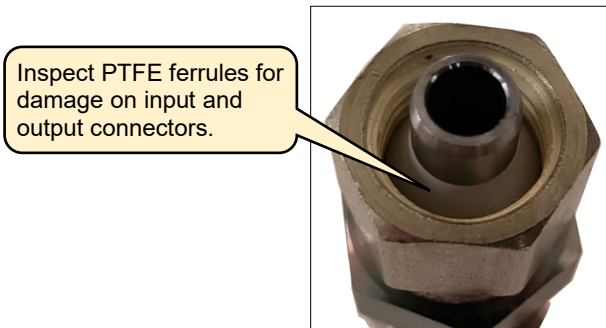

Figure 17: Ferrule Inspection
1. Place an absorbent cloth or paper in the area that will be occupied by the filter and fittings. See Figure 17. This will be used to absorb fluid during the leak test performed after installation of the new filter.